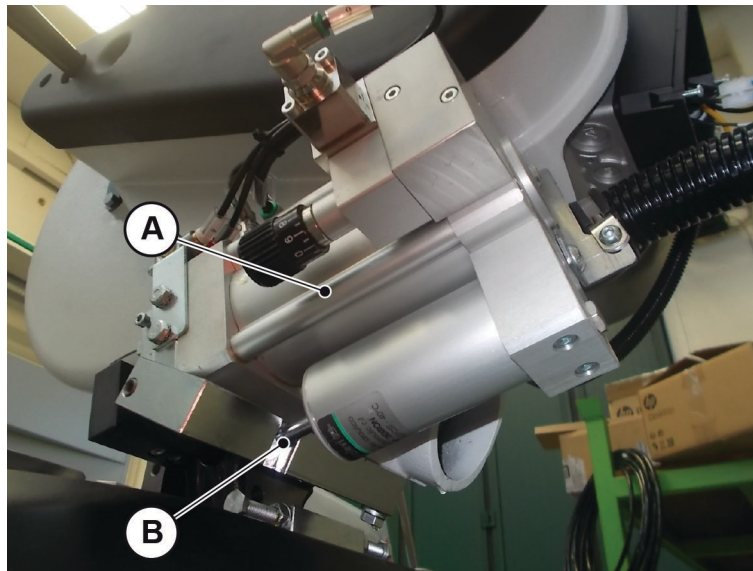

Fig. 09-03
- Weekly: check that the hydraulic cylinder “**A**” (**Fig. 09-03**) has not drained its oil otherwise it will not be possible to adjust the cutting speed and this might compromise the integrity of the blade: when the pin “**B**” (**Fig. 09-03**) (which normally protrudes from the cylinder body as shown in the figure) has fully returned inside the cylinder body, this means that the oil is no longer present and the cylinder must be replaced immediately.